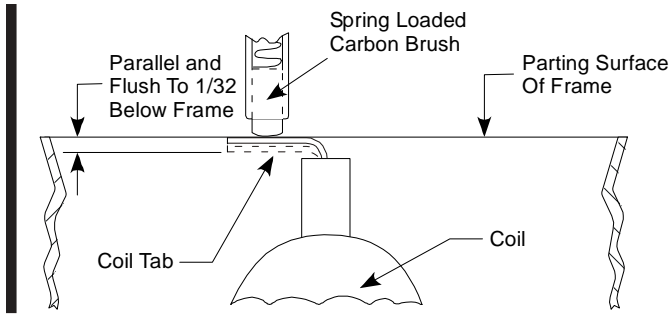

Figure 7.7
- C. Position the coil high tension lead flush to 1/32 inch below and parallel to the parting surface of the magneto frame. (See Figure 7.7.)